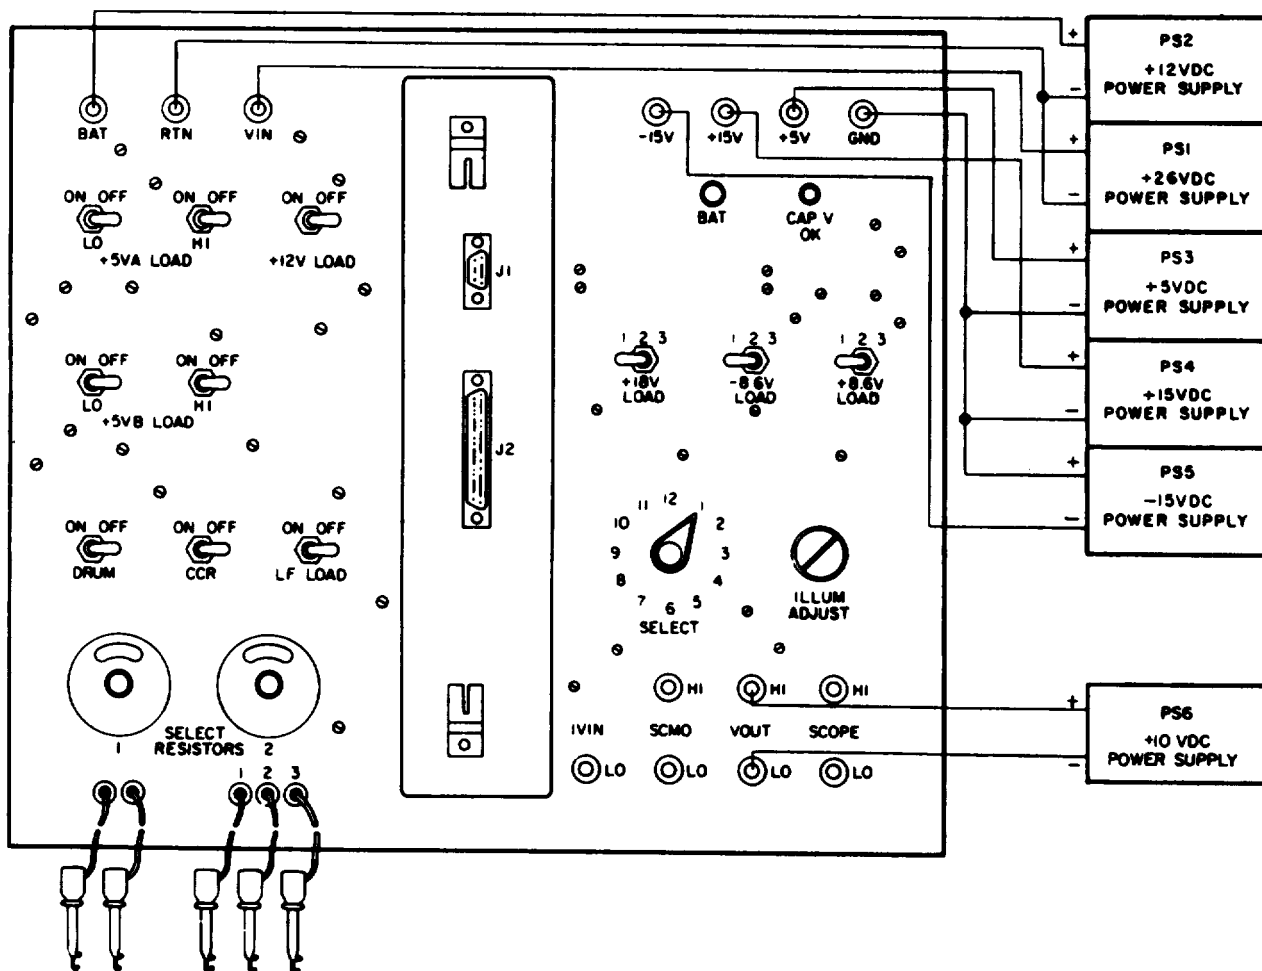

Figure 6-37. POWER SUPPLY TEST CONFIGURATION
## D. POWER SUPPLY TEST FIXTURE TEST PROCEDURES. (See figure 6-37. )
- Set up test fixture supplies as shown in figure 6-37.
- Connect oscilloscope to SCMO (Hi) and SCMO (LO) and observe output waveform as R46 is adjusted.